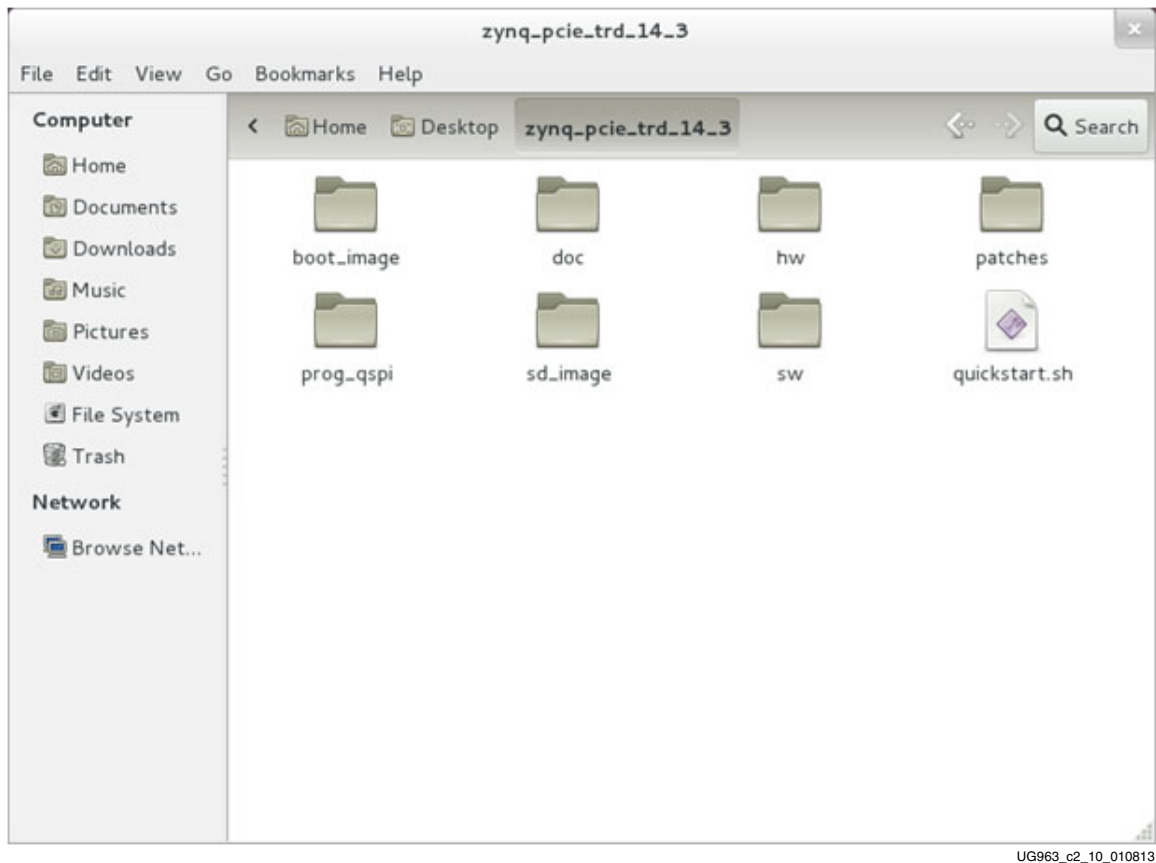

Figure 2-10: Directory Structure of z7_pcie_trd
2. Download `zynq_pcie_trd_14_3.zip` from www.xilinx.com/zc706 and copy it to specific `/tmp` folder of PCIe host PC. Change permission by typing `chmod 755 -R zynq_pcie_trd_14_3` on a terminal so that files inside `zynq_pcie_trd_14_3` has execution permission. Double-click on the copied `zynq_pcie_trd_14_3`. The screen capture in Figure 2-10 shows the content of `zynq_pcie_trd_14_3` folder.